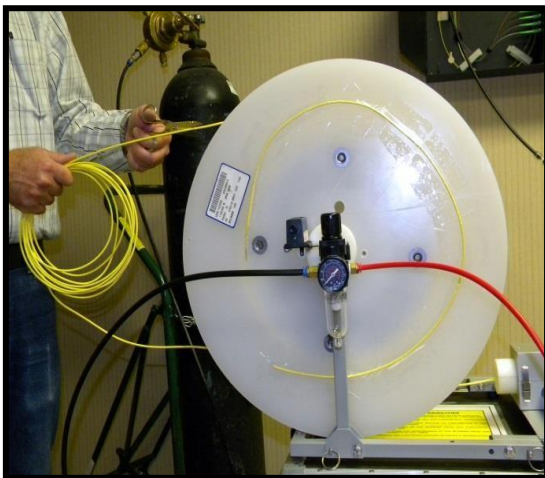

Figure 8
11.3 Carefully manually pay off recommended 10'- 15' of Fiber Bundle length from the reel for fiber termination purposes; more or less length if required / desired. When enough length is available, cut Fiber Bundle from reel. **See Fig. 8.**